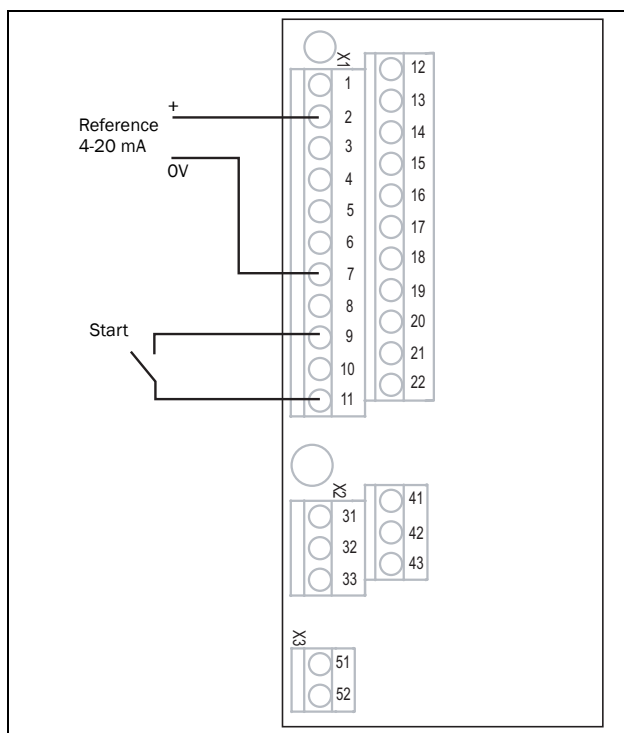

Fig. 36 Wiring
3. Connect a reference value between terminals 7 (Common) and 2 (AnIn 1) as in Fig. 36.
4. Connect an external start button between terminal 11 (+24 VDC) and 9 (DigIn2, RUNR) as in Fig. 36.
14. Connect digital and analogue inputs/outputs as in Fig. 36.